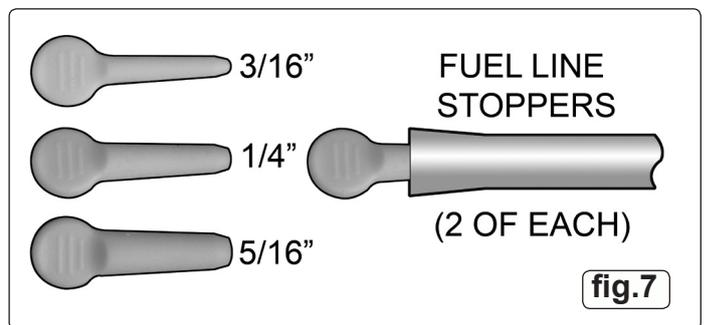

fig.7
**4.6 Stoppers** - Use to close off hoses, vacuum pipes etc as indicated in fig.7. Two of each size supplied - 3/16", 1/4", 5/16".